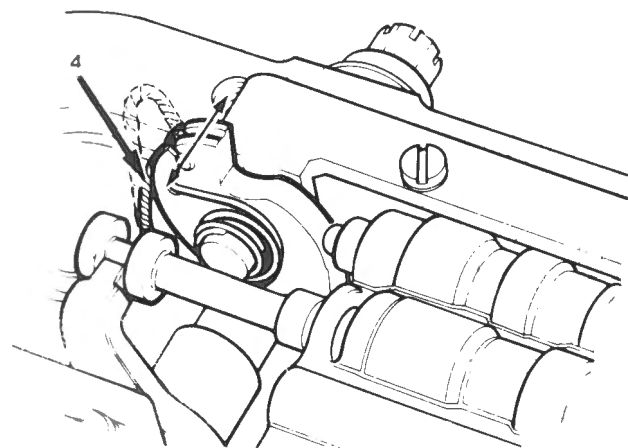

Fig. M-44
- 4 Release the throttle inner cable from the downshift cam. Fig. M-44.